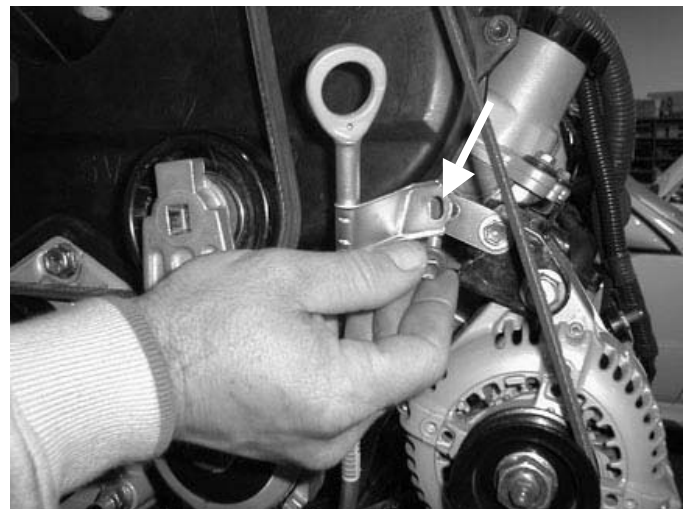

Figure 5
9. Remove the oil dipstick tube from the relocation bracket (Figure 5).